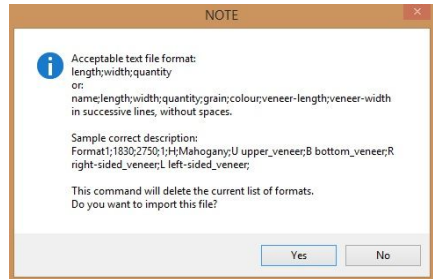

Fig. 25 – information about required format of a text file with formats data
- **Text files** – loads TXT and CSV files containing lists of formats, so it is possible to quickly import formats lists made in other programs. After selecting this option you will see a message, presenting the correct file structure (Fig. 25), and then a browser in which you can select the TXT or CSV file and click **'OK'**. Formats listed in the file will appear on the format list in CAD Cut.